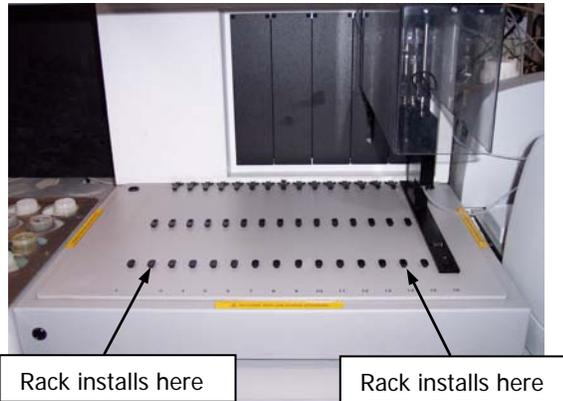

Figure 18 Installing the sample rack
2. Place the sample rack on the pins as shown in Figure 18.